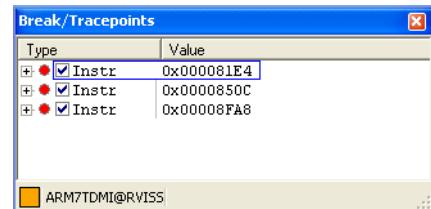

Figure 11-11 Breakpoint in the Break/Tracepoints view
1. Select **Break/Tracepoints** from the **View** menu to display the Break/Tracepoints view, if it is not already visible. Figure 11-11 shows an example: